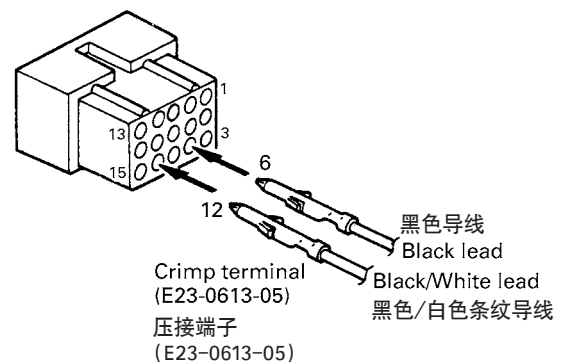

Fig. 4-3 / 图4-3
3. Reinsert the terminal with the black and white stripe lead into hole number 12, and the terminal with the black lead into hole number 6. (Fig. 4-3)
3. 将黑白条纹的导线重新插入端子的12号孔, 将黑色导线重新插入6号孔。(图4-3)。